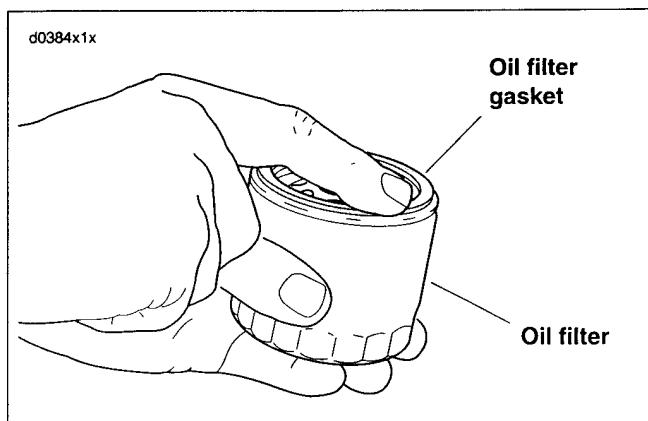

Figure 3-153. Lubricating New Oil Filter
- See Figure 3-153. Lubricate gasket on new oil filter with clean engine oil and install oil filter onto oil filter mount. Hand tighten oil filter 1/2 to 3/4 turn after gasket contacts oil filter mount surface.